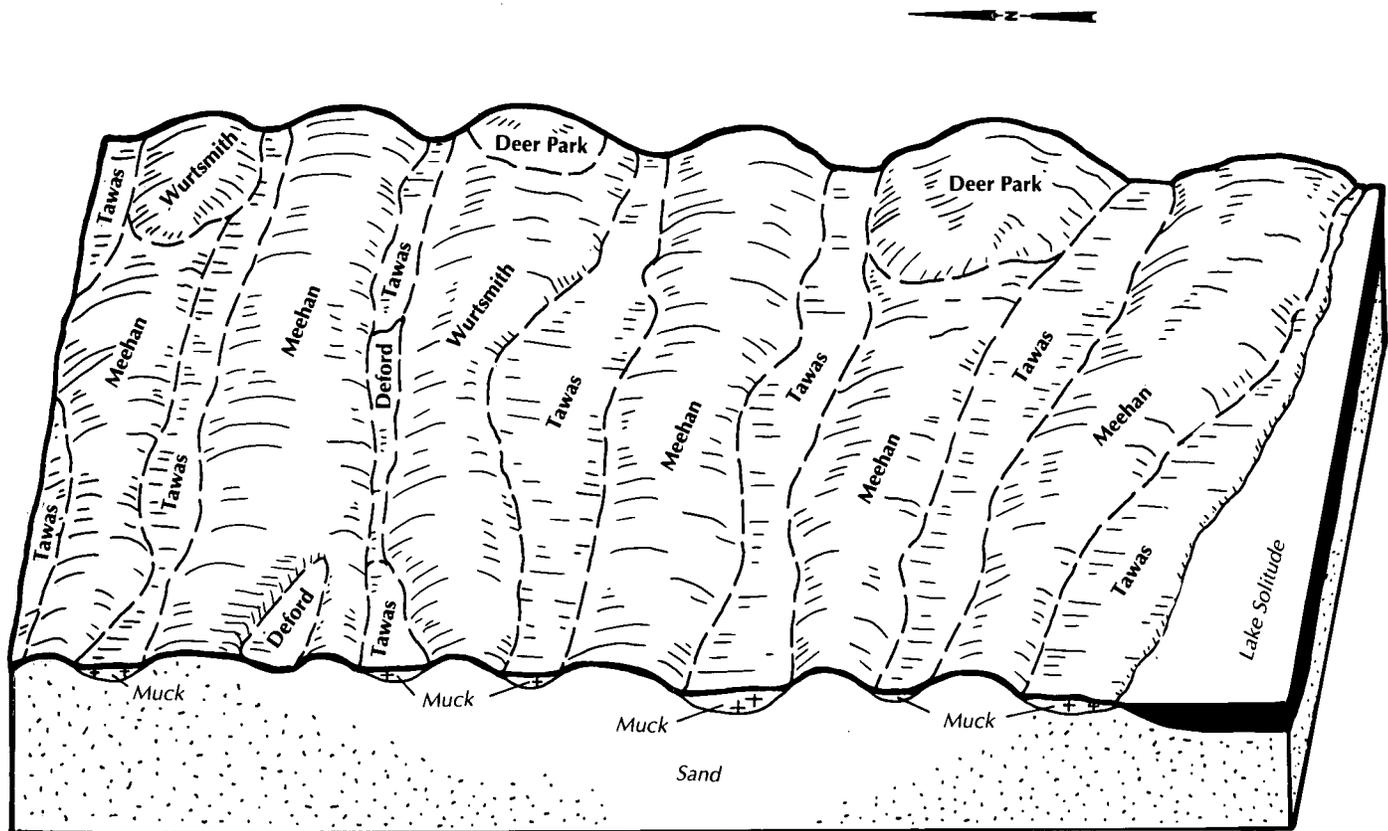

Figure 11.—Typical pattern of soils on the landscape in an area of Meehan-Tawas-Wurtsmith complex, 0 to 12 percent slopes.
*Landform:* Beach ridges on lake plains (fig. 11)